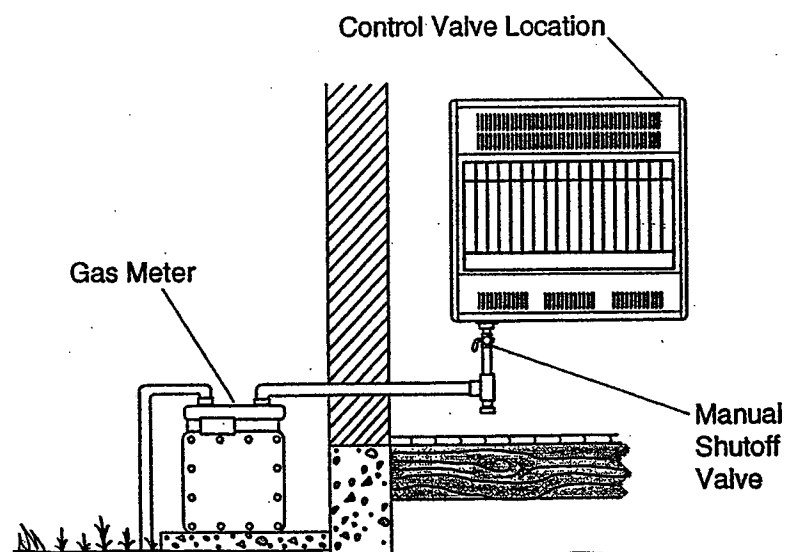

Figure 14 - Checking Gas Joints
3. Check all joints from gas meter to manual shutoff valve (see Figure 14). Apply mixture of liquid soap and water to gas joints. Bubbles forming show a leak.
4. Check all joints from manual shutoff valve to control valve (see Figure 14). Apply mixture of liquid soap and water to gas joints. Bubbles forming show a leak.